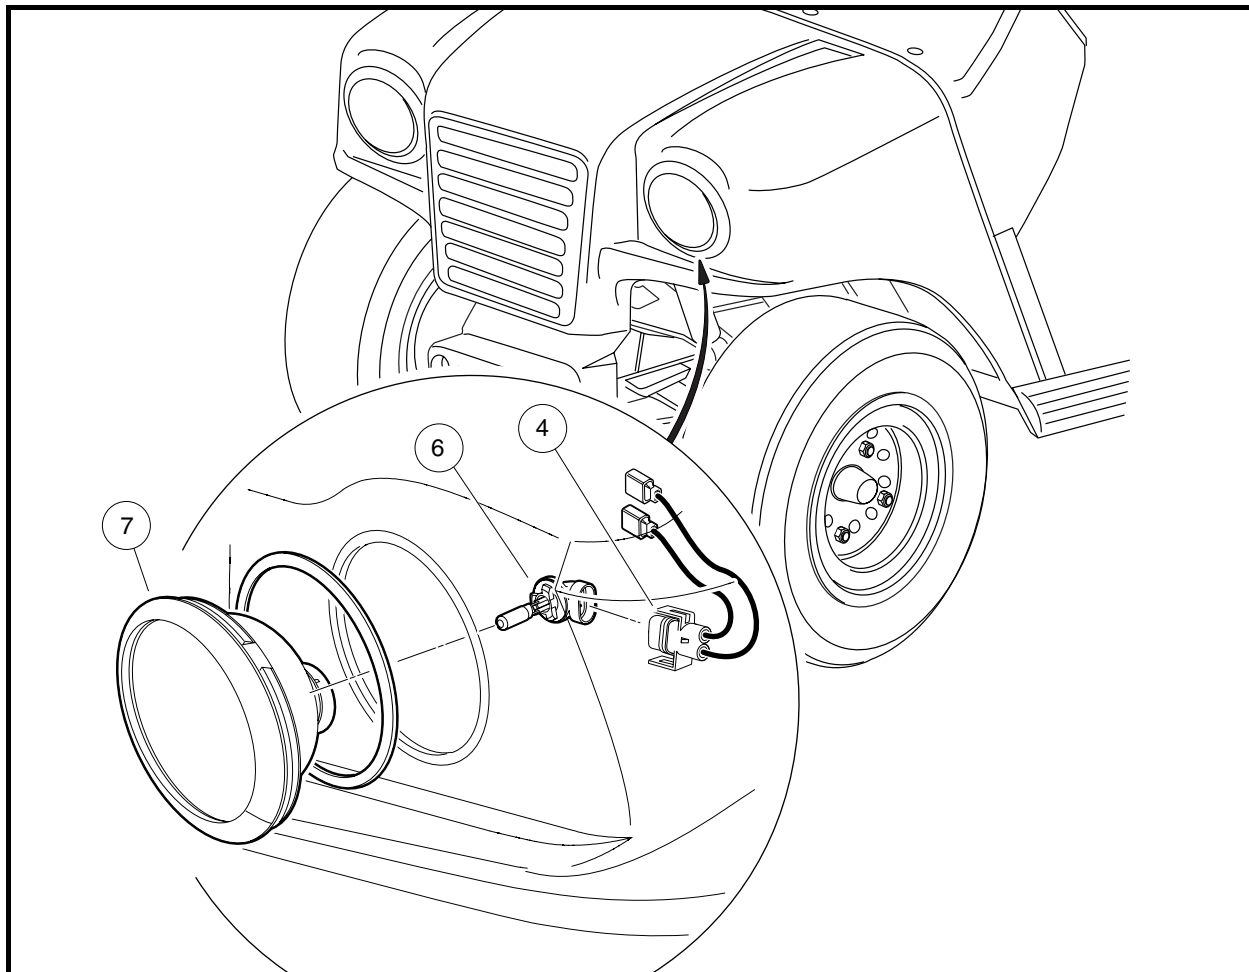

Figure 12-28 Headlight Assembly
3. From the front of vehicle, reach under body and turn the wire harness/halogen bulb assembly (4 and 6) clockwise one-quarter turn (**Figure 12-28, Page 12-26**).
4. Remove the wire harness/halogen bulb assembly (4 and 6) from the headlight lens (7).
5. Lift the retaining tabs on the connector (4) and remove halogen bulb assembly (6).
1. Connect wire harness (4) to the halogen bulb assembly (6). The retaining tab should lock onto the halogen bulb assembly (**Figure 12-28, Page 12-26**).
2. From the front of vehicle, reach under body and insert wire harness/halogen bulb assembly (4 and 6) into the headlight lens (7).